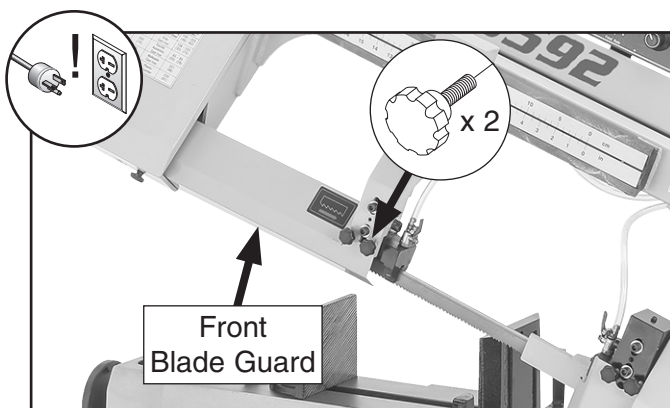

Figure 83. Front blade guard and knobs.
4. Loosen (2) knobs shown in **Figure 83** to remove front blade guard.